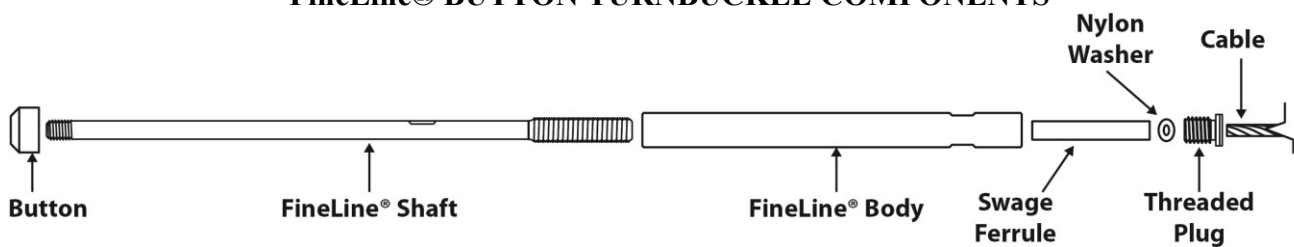

Fig 7
NOTE: Individual components may need assembly (Fig. 7).
- Perform step 6a. Screw FineLine® Body onto FineLine® Shaft 3-4 times (Fig. 7).